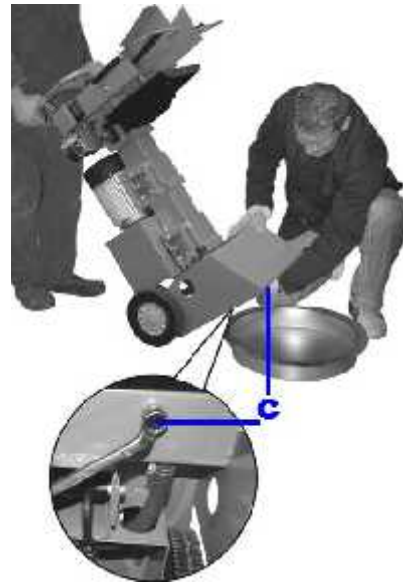

Fig.26
4. Unscrew the drain plug (located under the base of the splitter) for the oil to flow (see Fig.26).